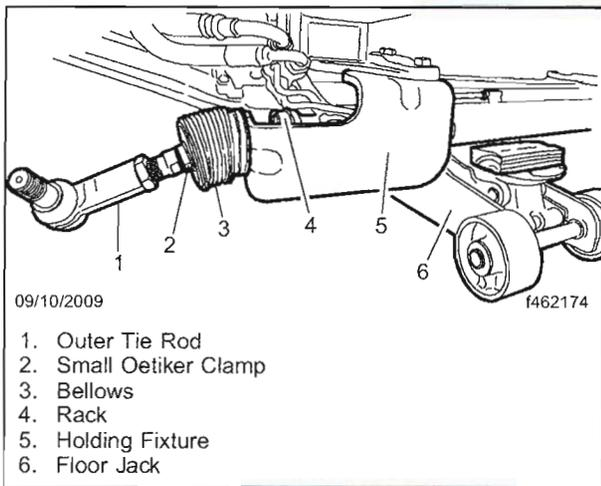

Fig. 4, Holding Fixture Installation
- 12.5 Ensure that the floor jack no longer supports the gear. See **Fig. 4**. The rack should be parallel to the ground, and the rack flats should be fully engaged in the fixture.